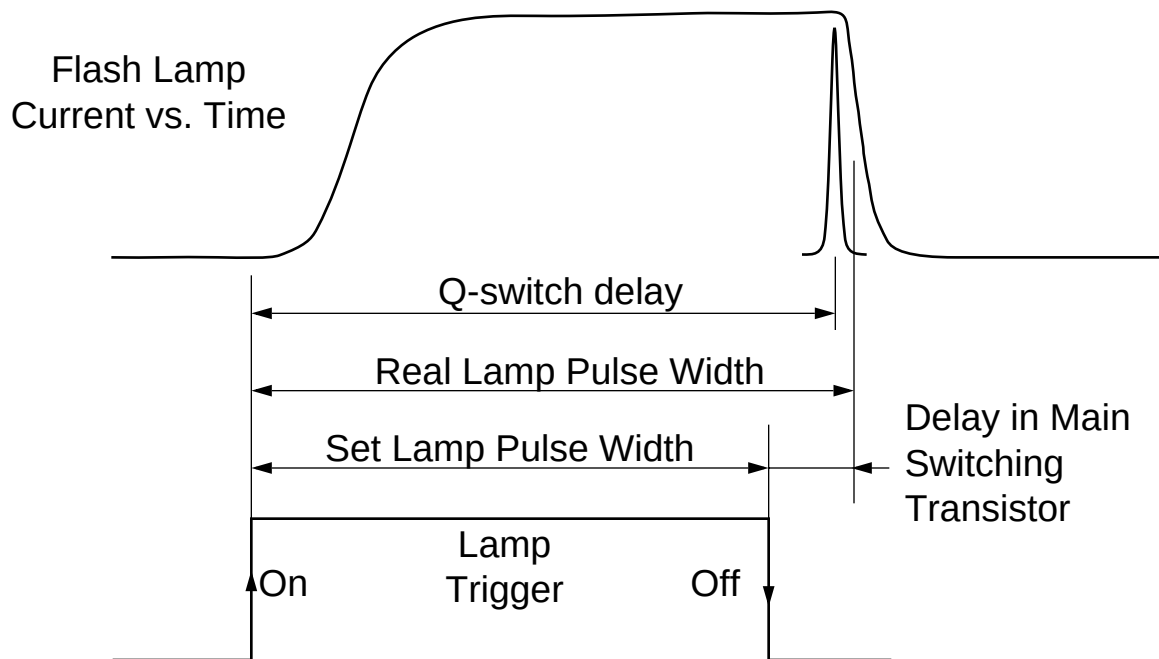
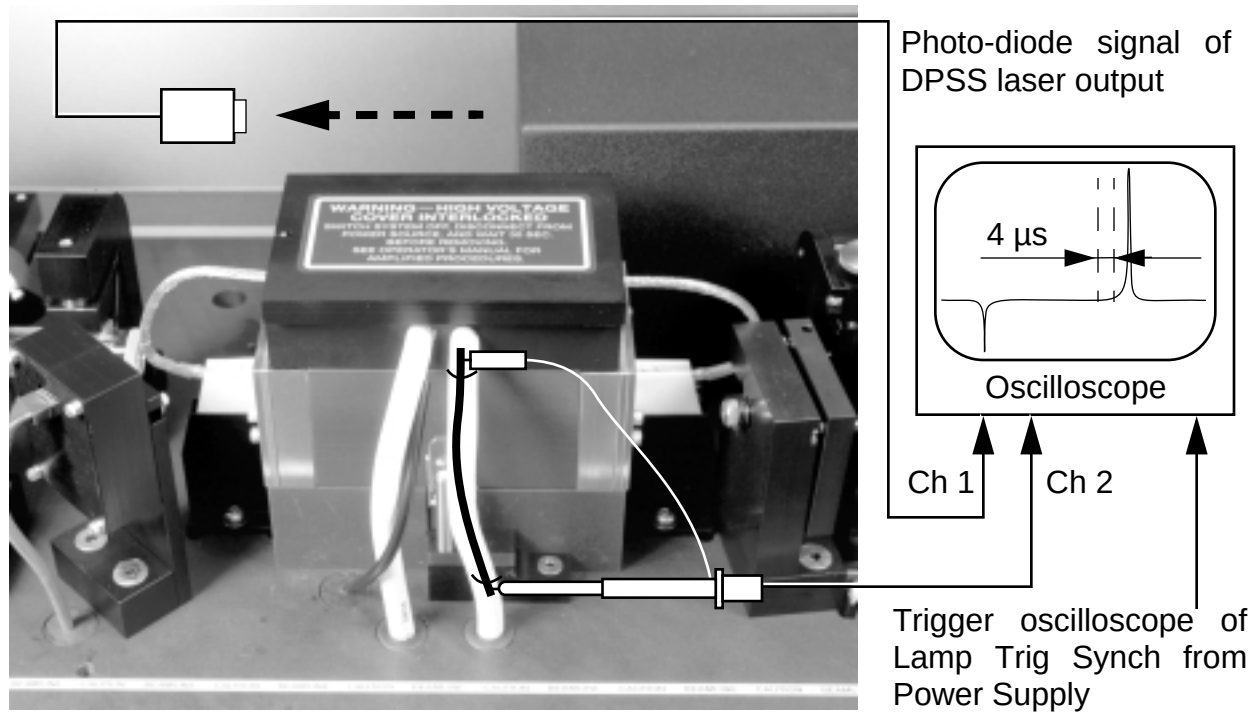

Figure 6-14. Timing of Lamp Trigger, Lamp Current and Q-switch.
Figure 6-15. Setup to Determine Timing Settings for Lamp Pulse and Q-switch.
Due to internal delay in the large transistor that discharges the capacitor bank through the flash lamp, the set and the actual lamp pulse width differ, see Figure 6-14. For precise timing control an oscilloscope with one channel connected through inductive coupling to the “cathode” flash lamp lead and one to a photodiode monitoring the Q-switch pulse, can be used. This setup is illustrated in Figure 6-15.
1. Open the Infinity head cover and install the interlock defeat. Tape a piece of electrical wire, ~ 8 cm long, in parallel to the white cathode flash lamp cable, Figure 6-15.
5. Set the system repetition rate to its maximum value and set the IR energy to 1 mJ. Start the Infinity laser system. The solid trace in Figure 6-15 shows the derivative of the lamp current (inductive coupling). This trace should be observed on the oscilloscope.